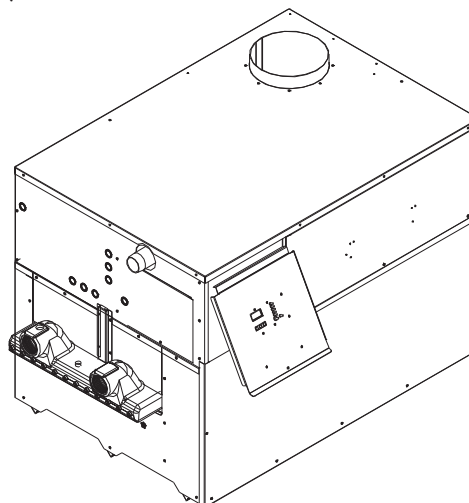

Figure 41 - Control Panel Cover
- Loosen knurled screw at the bottom of control panel cover (see Figure 41).